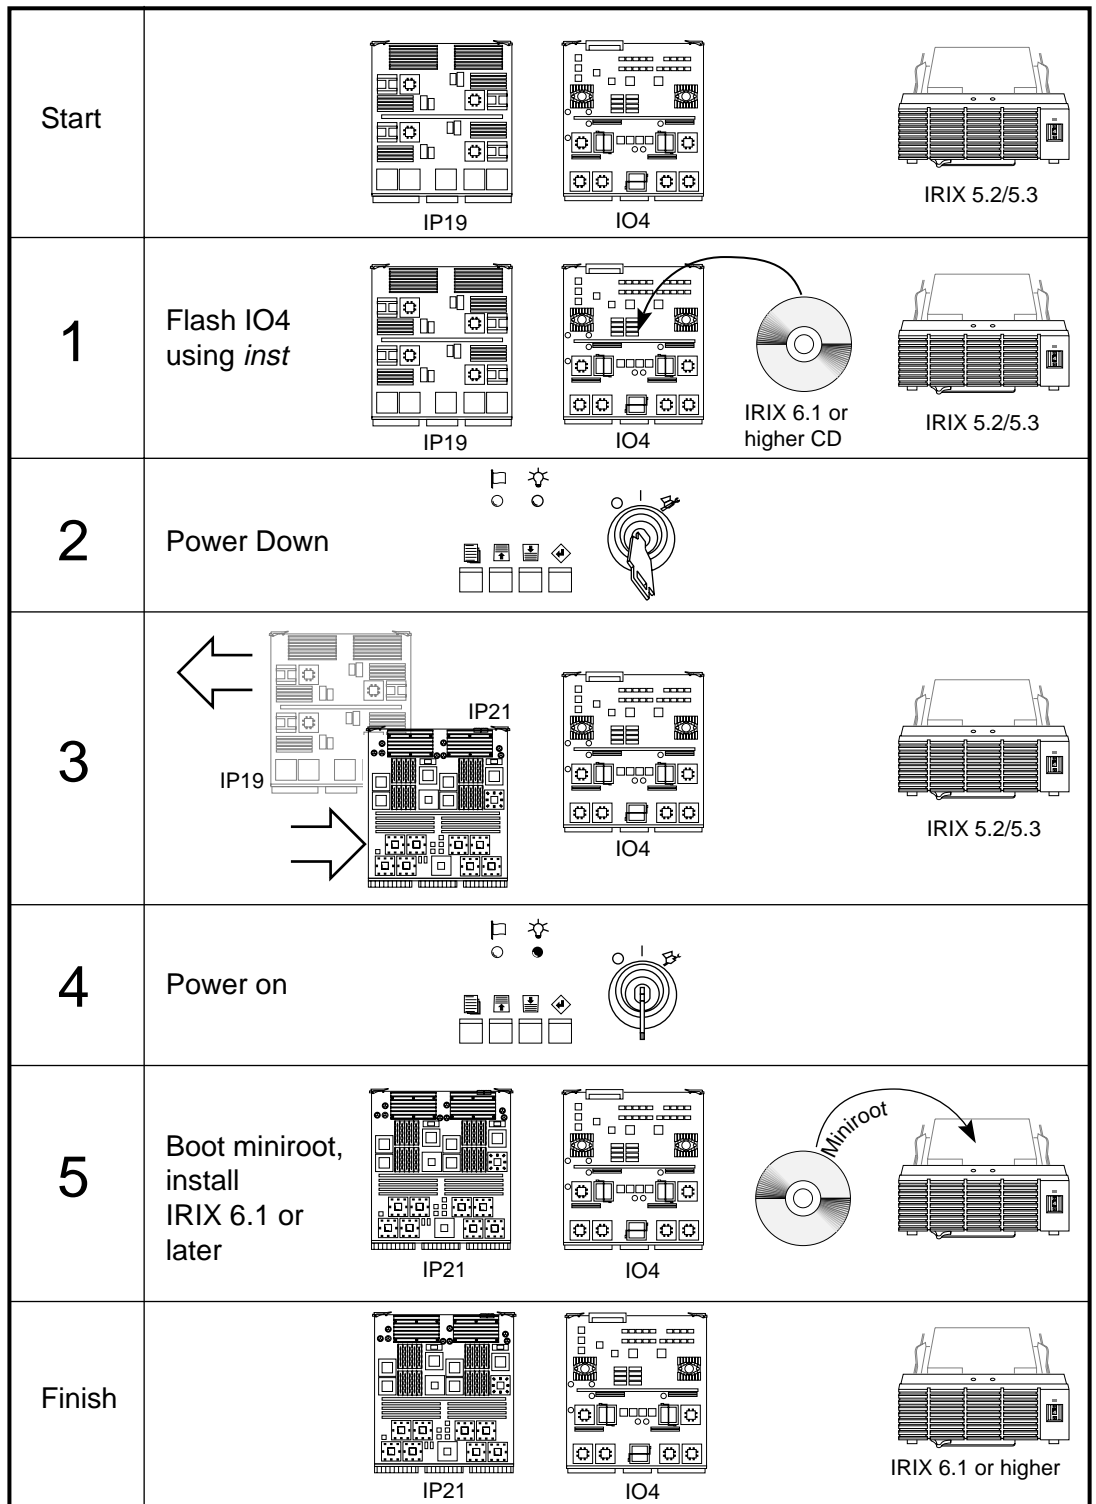
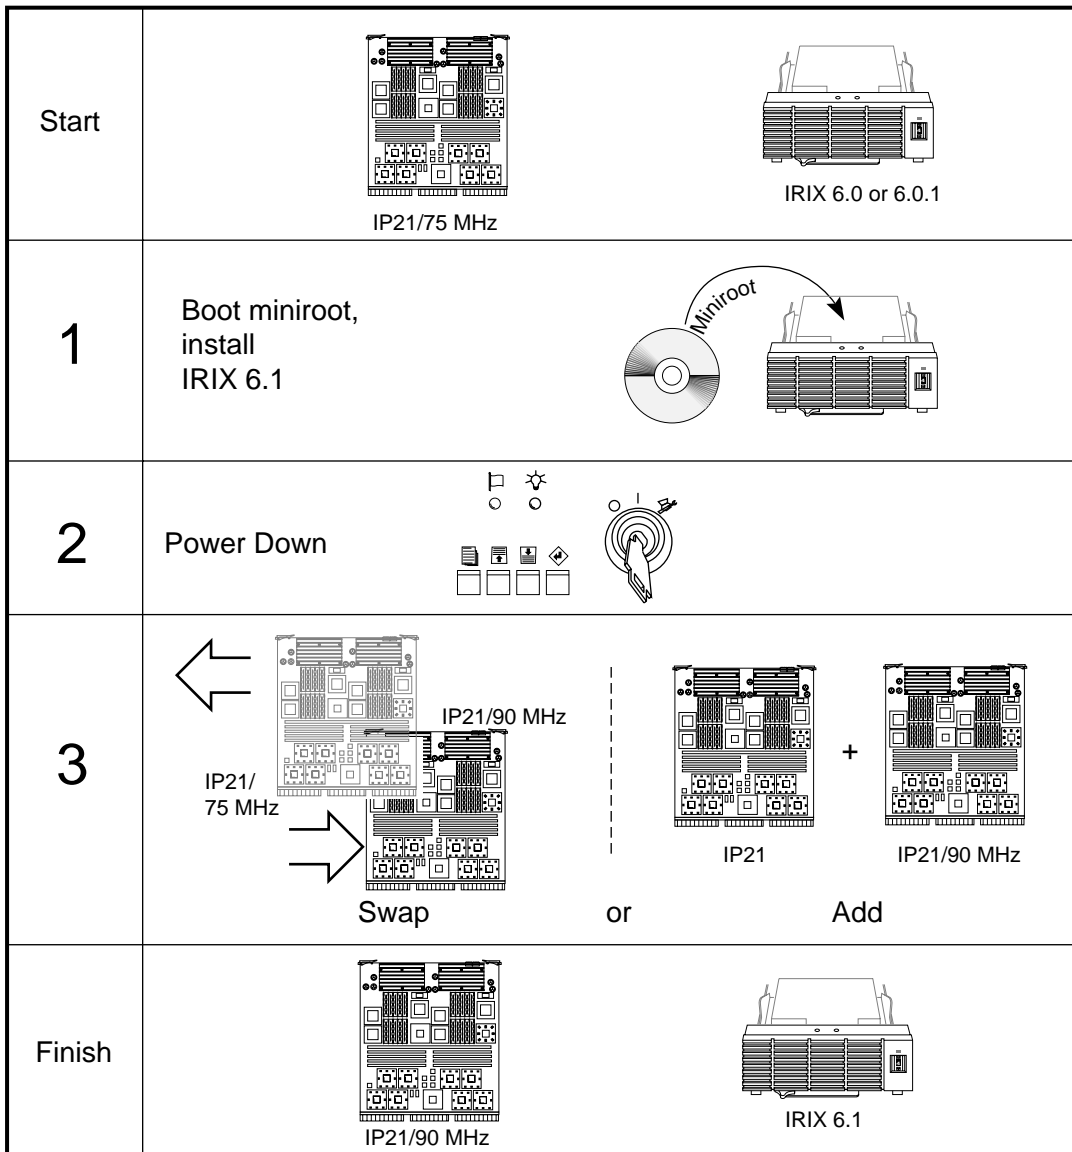

Figure 2-1 Overview of the IP21 Upgrade
Figure 2-2 Upgrading From IP21/75 MHz and IRIX 6.0 or 6.0.1 to IP21/90 MHz and IRIX 6.1
- Figure 2-1** Overview of the IP21 Upgrade2-2
Figure 2-1 provides an overview of the IP19-to-IP21 upgrade. Figure 2-2 provides an overview for upgrading an IP21/75 MHz and IRIX 6.0 or 6.0.1 configuration to an IP21/90 MHz system *with* IRIX 6.1.